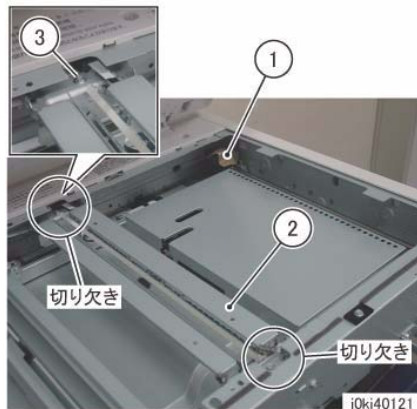

Figure 10 Affix the cable
7. Affix the cable to the Full Rate Carriage. (Figure 10)